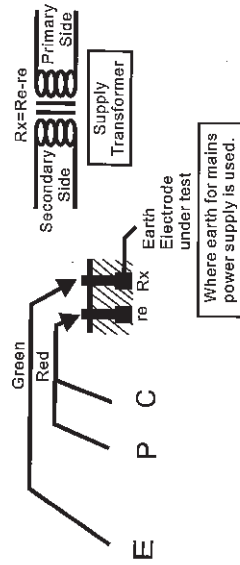

Fig.2
- (1) This method is recommended where an earth resistance higher than 10Ω is measured or where it is not possible to drive auxiliary earth spikes. An approximate value of earth resistance can be obtained by the two wire system where is shown in Fig. 2.
- (2) Rotary to function switch to "EARTH VOLTAGE" position and press to test. Make certain that earth voltage is less than 10V.
- (3) First rotary the function switch to " 200Ω " position and press to test, read earth resistance. If the display shows "1" (MSD), switch to " $2K\Omega$ " position and read earth resistance.
- (4) The reading obtained (Rx) is an approximate earth resistance value. There is no need for external shorting as P and C terminals are shorted by using the test leads specified for the Simplified measurement.